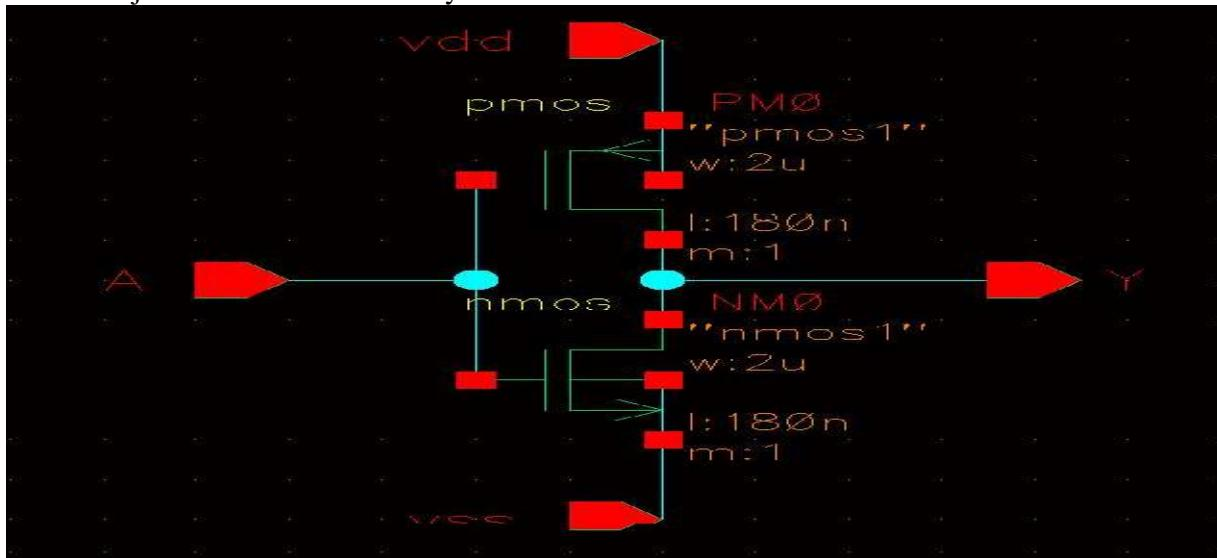

Figure 1.1: Schematic Entry
4. Complete the wiring as shown in figure1.1 and when done wiring press ESC key in the schematic window to cancel wiring.